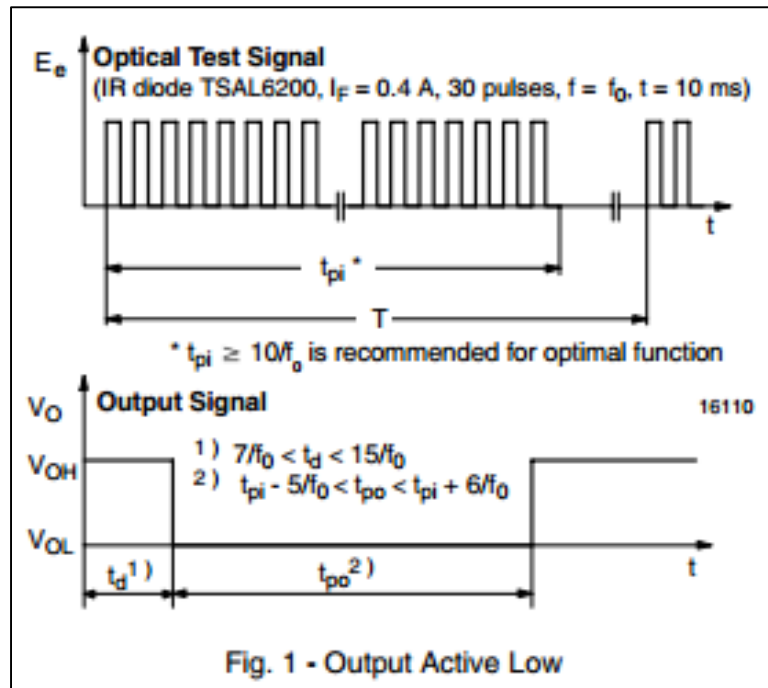

Figure 22 Sample output signal of IR Receiver
2. Turn on the Edison and the voltage measured by the multimeter should be roughly **4 V**, the same voltage at the VSYS pin. Point the TV remote so that it is pointed toward the curved side of the IR Receiver as in Figure 22.